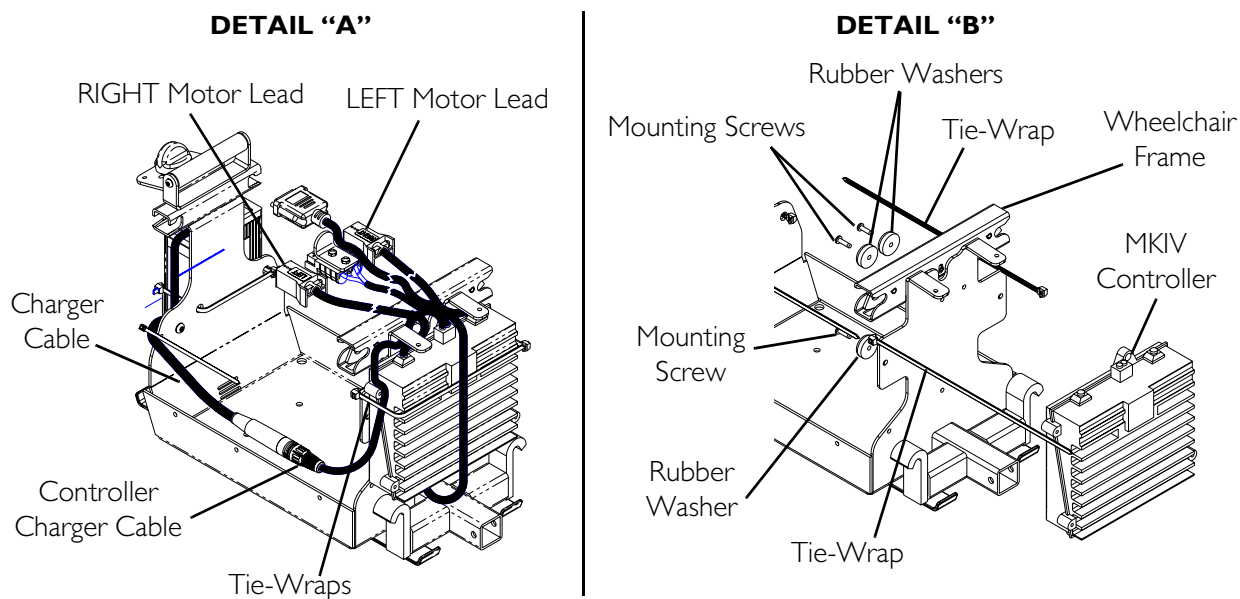

FIGURE 11.4 Replacing the MKIV RII Controller
NOTE: For this procedure, refer to FIGURE 11.4 on page 101.
4. Disconnect the right and left motor leads (Detail “A” of FIGURE 11.4) .
5. Remove the two tie-wraps securing the controller charger cable and controller to the wheelchair frame (Detail “A” of FIGURE 11.4).
6. Disconnect the controller charger cable from the charger cable (Detail “A” of FIGURE 11.4).
7. From inside the wheelchair frame, remove the three mounting screws and rubber washers that secure the existing controller to the wheelchair frame (Detail “B” of FIGURE 11.4).
4. Disconnect the cables (joystick, motors, battery, charger, actuator) from the controller (Detail “A” or “B” of FIGURE 11.4).
5. From inside the wheelchair frame, remove the two mounting screws and rubber washers that secure the existing controller to the wheelchair frame (Detail “C” of FIGURE 11.4).